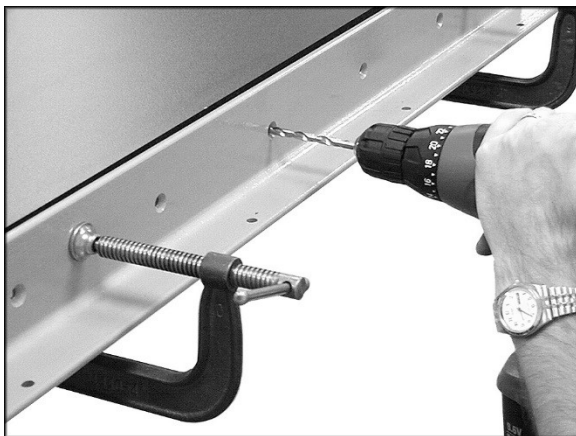

Figure 6-9
- When extension table is properly aligned, drill holes into wood table using holes in rails as guide. See Figure 6-9. (You may wish to drill 3/32" pilot holes first.) Drill 9mm (or 11/32") holes into front edge and back edge of table using holes in the rails as your guide.